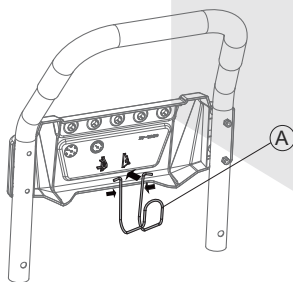

Fig 2
a. As shown in Figure 2, squeeze the high-pressure pipe hook (A) in the middle and hang it in the hole of the panel.